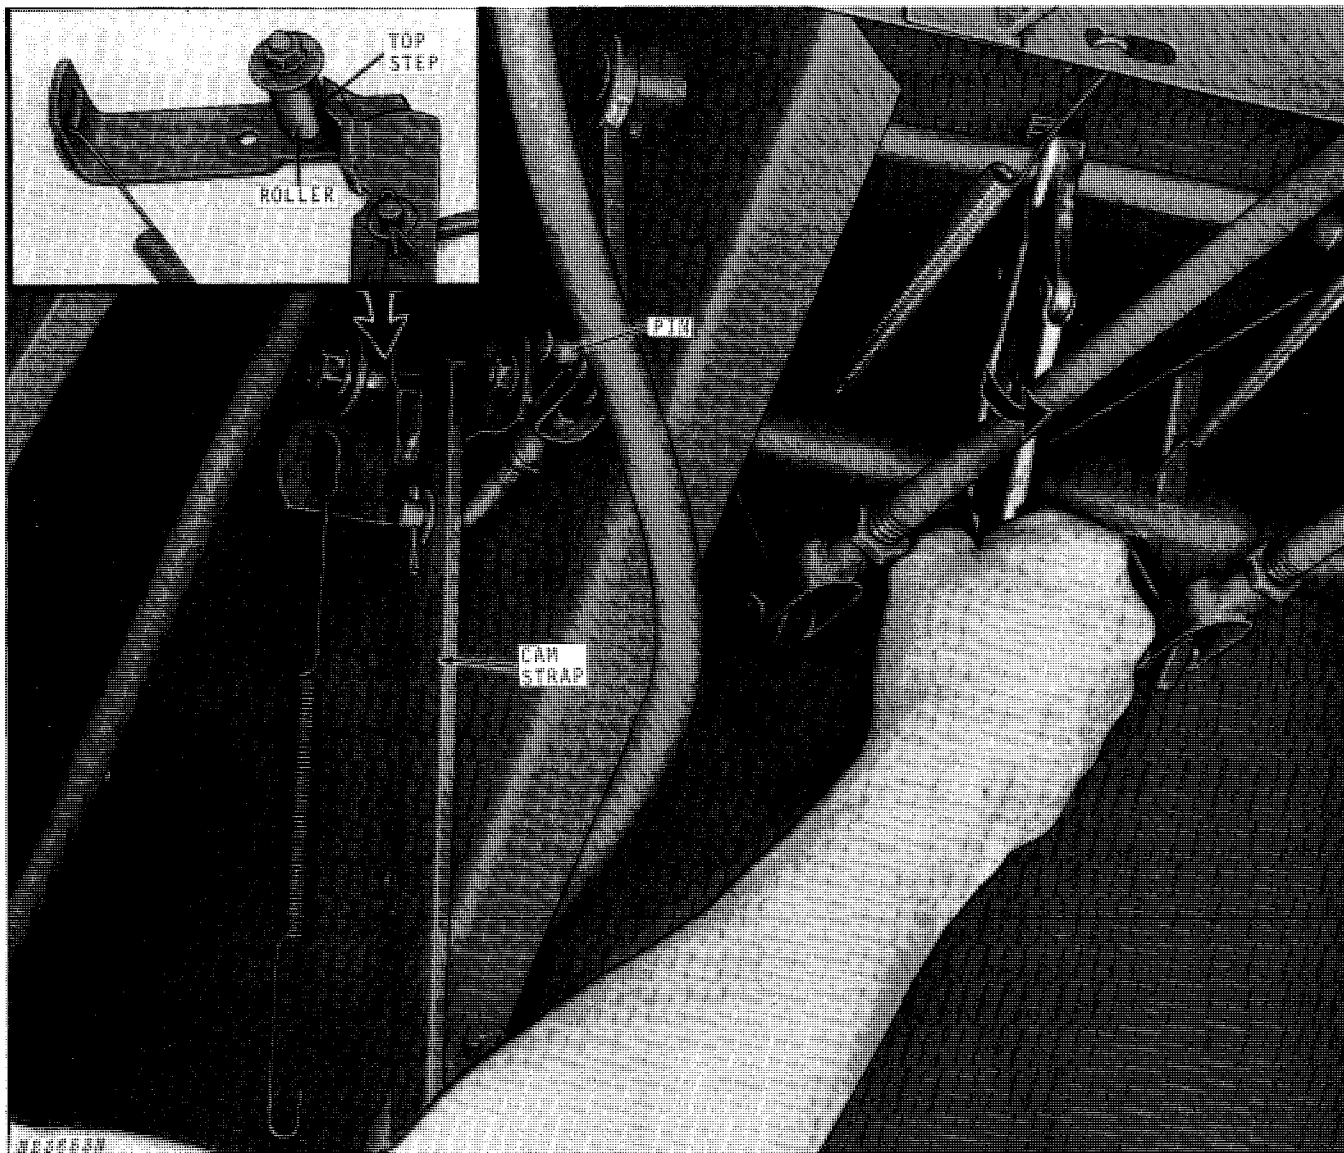

Fig. 32-Positioning Cam Strap
5. Position cam strap on top step, Fig. 32. Adjust horizontal control rod with spool open—open spool with locking-type pliers on cross shaft. Adjust rod length so pin can be installed without slack.